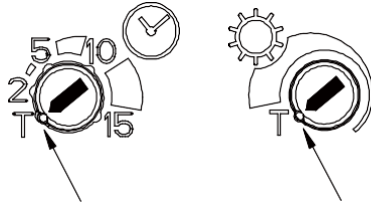

FIGURE 8
- Turn both the TIME and the LUX control knobs counterclockwise to the edge – the “T” position to enter TEST mode. (FIGURE 8)